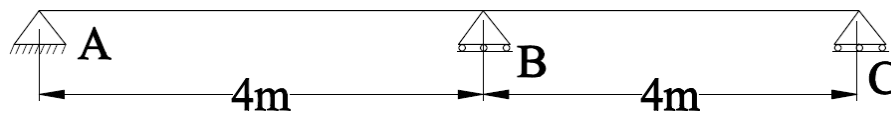

Fig.12
8. Compute the ordinates of influence lines for reaction R_A for the beam shown (refer Fig. 12) at 1 m interval and draw the influence line diagram. The moment of inertia is constant throughout.